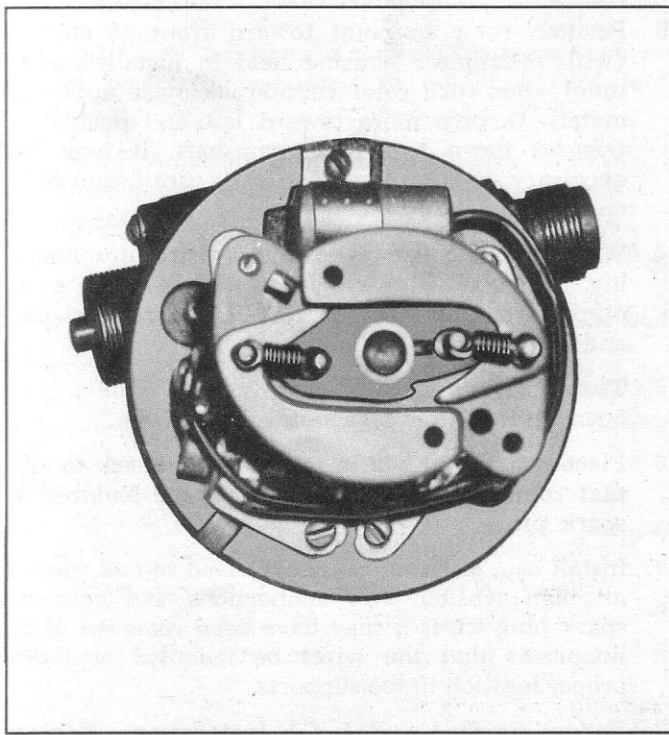

Fig. 3—Advance Weights Installed
4. Lubricate and slide weight cam over mainshaft and install weights and springs (fig. 3).